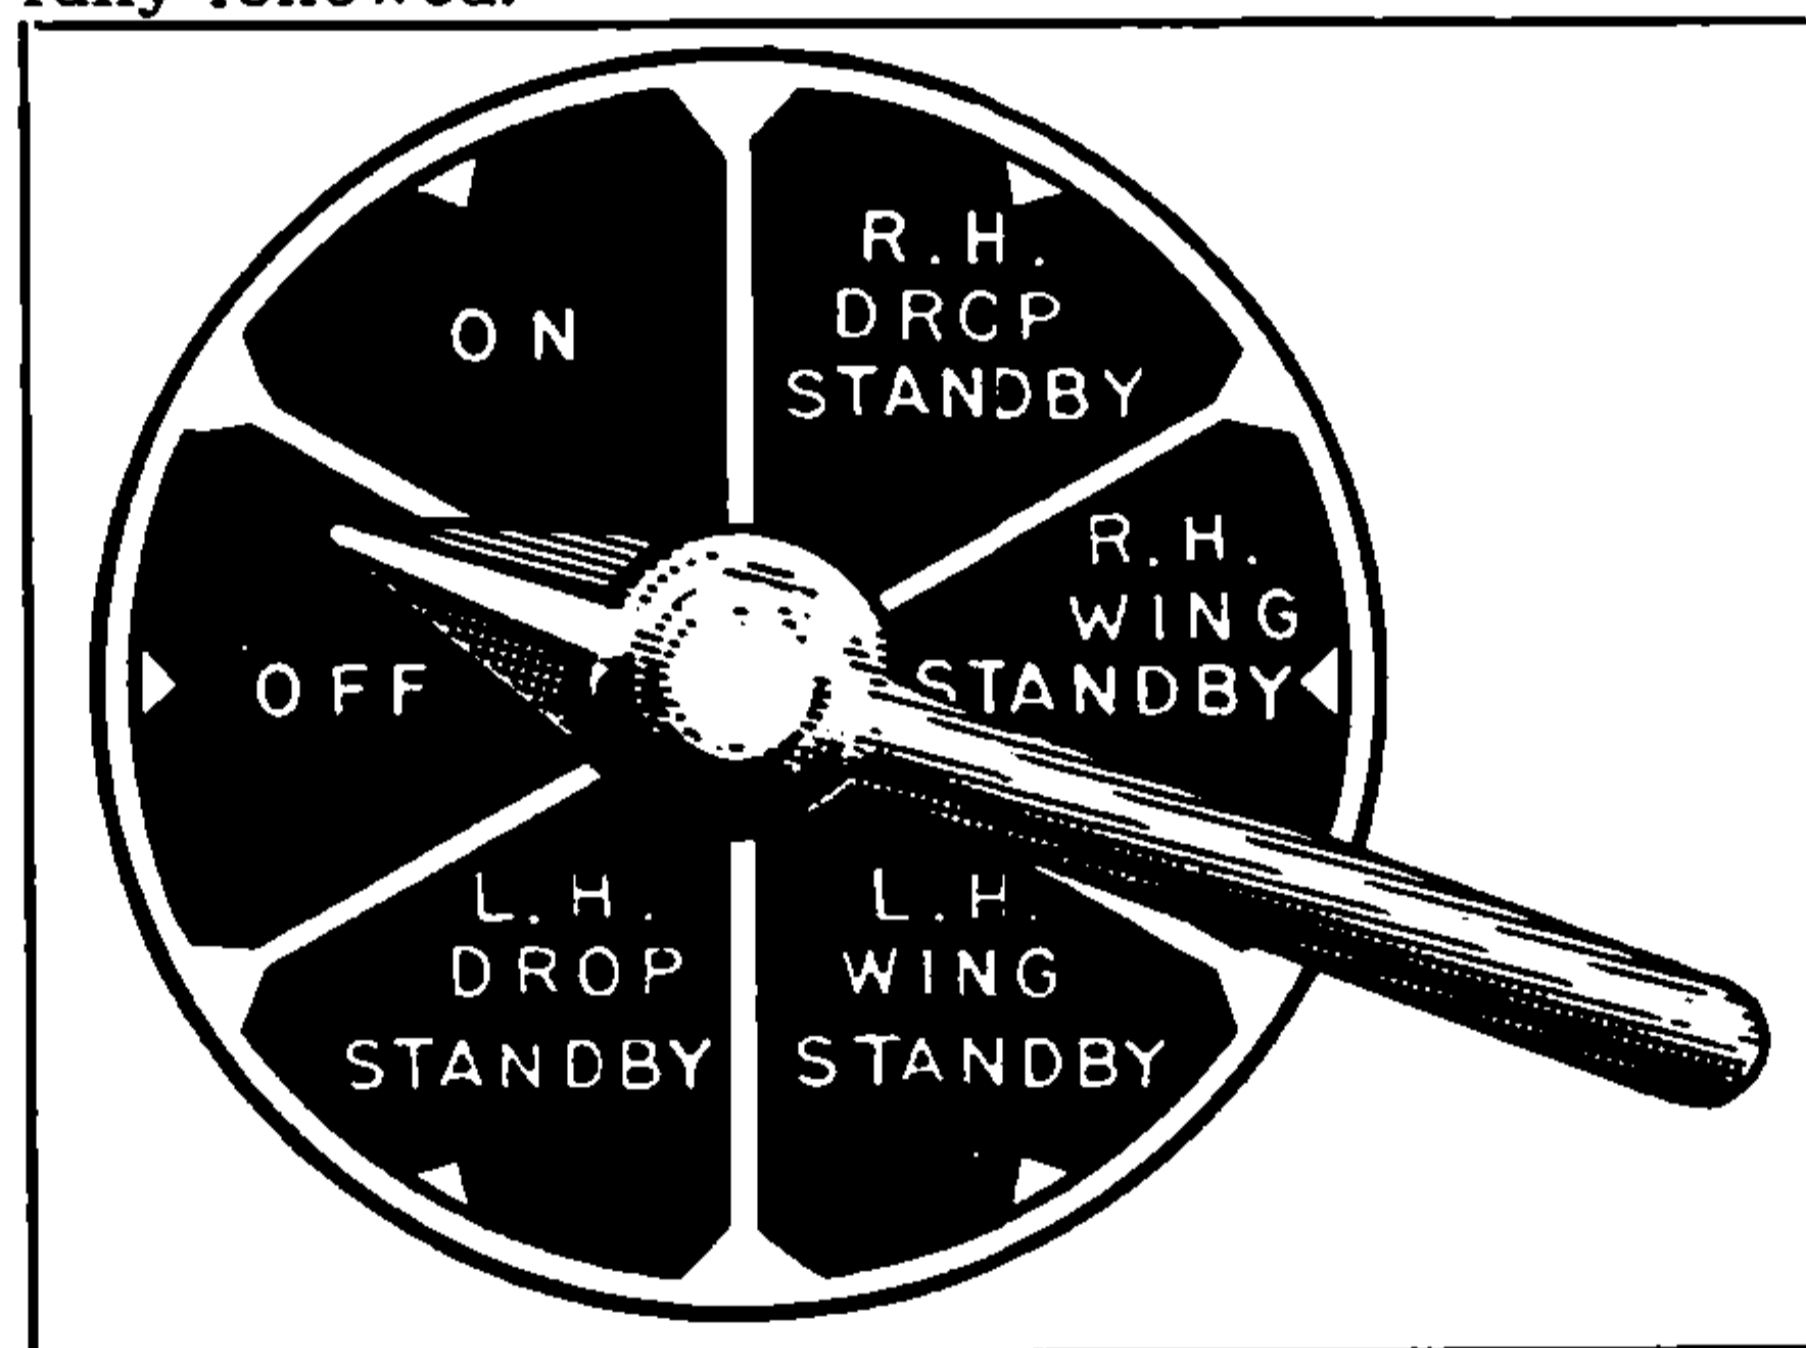

Figure 22 — Fuel Tank Selector Valve
- (2) Fuel tank selector valve — *ON*. (See figure 22.)